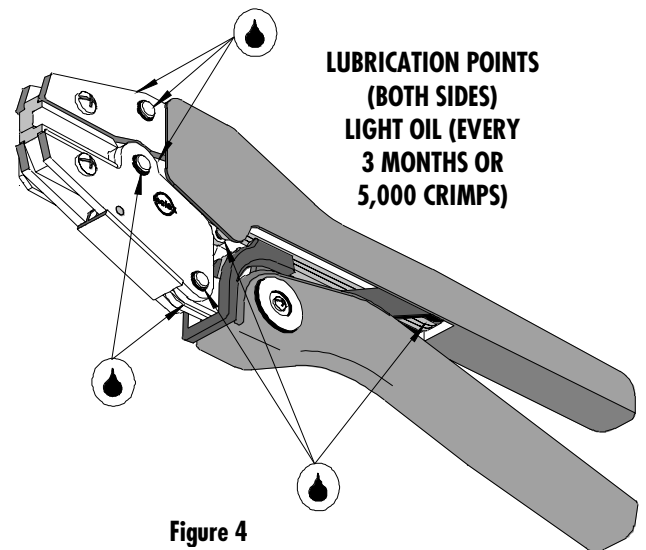

Figure 4
3. Make certain all pins; pivot points and bearing surfaces are protected with a thin coat of high quality machine oil. Do not oil excessively. The 64001-0900 (RHT-7050) was engineered for durability, but like any fine piece of equipment it needs cleaning and lubrication for a maximum service life of trouble-free crimping. A light oil, such as 30 weight automotive oil used at the oil points shown in Figure 4, every 5,000 crimps or 3 months will significantly enhance the tool life and ensure a stable calibration.